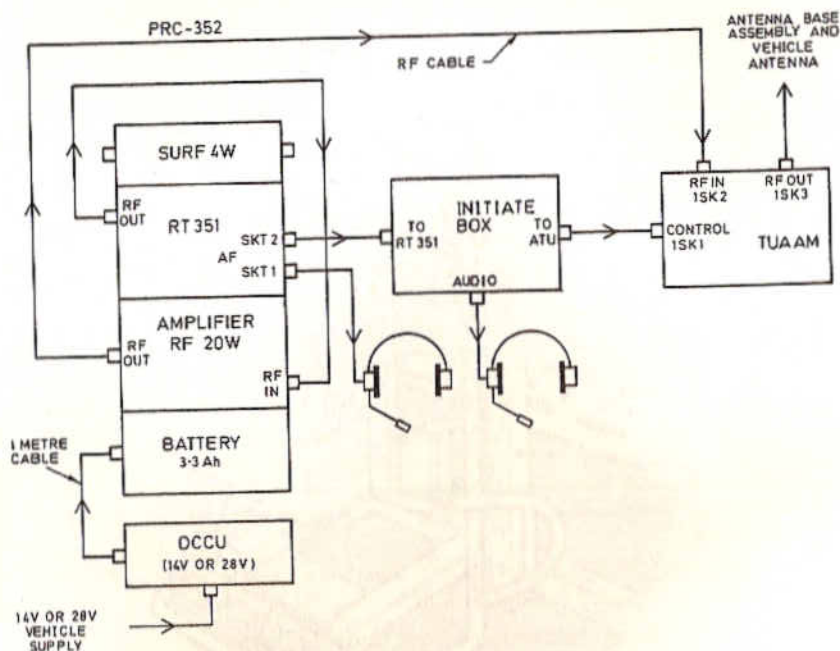

Fig. 31 Vehicle Clip-In Interconnections
- (d) Connect the 1 metre cable (Fig.31, page 62) from the DC Charging Unit to the charging socket on the manpack 3.3 Ah battery.
A PRC-352 mounted on its manpack carrier is clipped into an FFR Landrover installation. The installation contains a TUAAM, an Initiate Box and a 2-metre vehicle whip antenna (see Fig31, page 62).